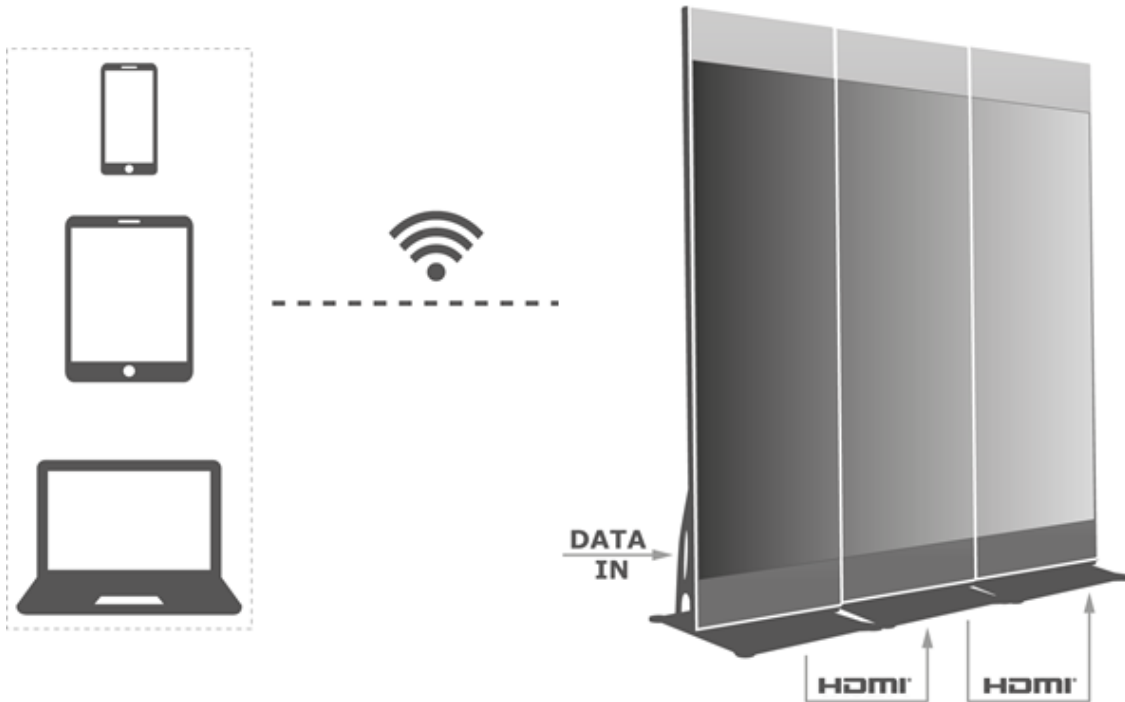

Figure 12: LED Poster Connection Example
- Connect hardware devices. For example, splice 3 screens and use external video sources (see Figure 12).